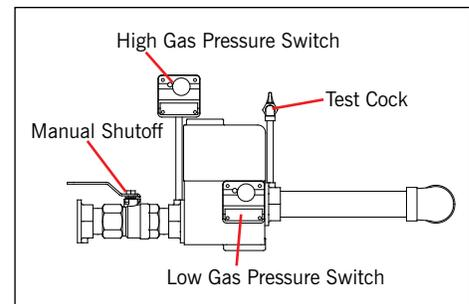
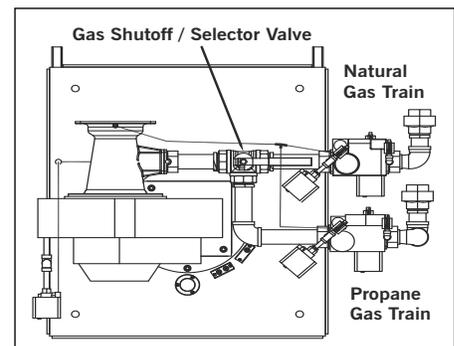

Figure 1-5 Standard Gas Train
Figure 1-6 Optional dual gas train
3. Burner Gas Train (See Figure 1-5 & Figure 1-6)